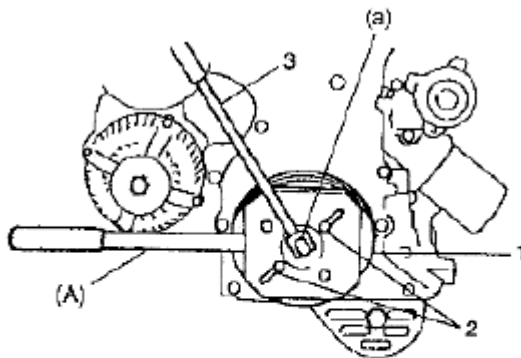

Fig. 56: Locking Crankshaft Pulley Bolt
10. Install crankshaft pulley. To lock crankshaft pulley (1), use special tool (camshaft pulley holder) as shown in **Fig. 56**.